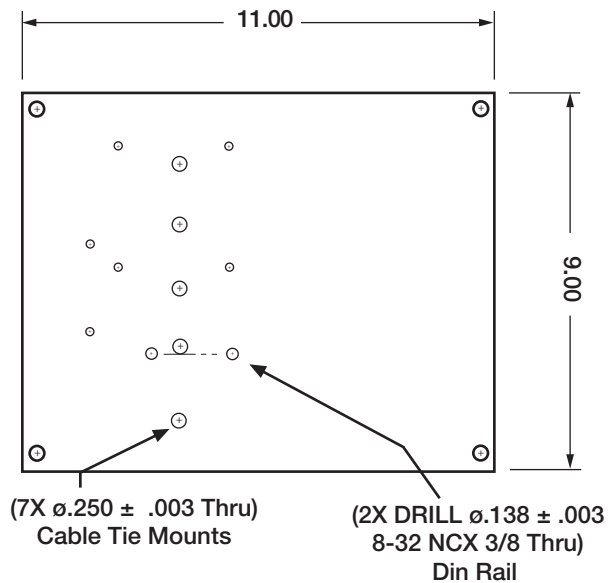

Figure 3. I/O Module Back Plate
2. Secure Din rail and socket to the back plate of the I/O Module using the two 8-32NC X 3/8 screws provided in parts kit. (See Figure 3 on page 1)
10. Insert the cable tie arrow head mounts into two of the five holes (see Figure 3).